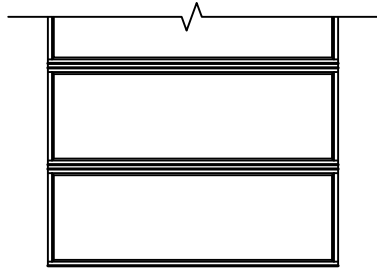

FIGURE A.1
- WINDOW UNITS MAY BE STACKED VERTICALLY, REFER TO FIGURE A.1